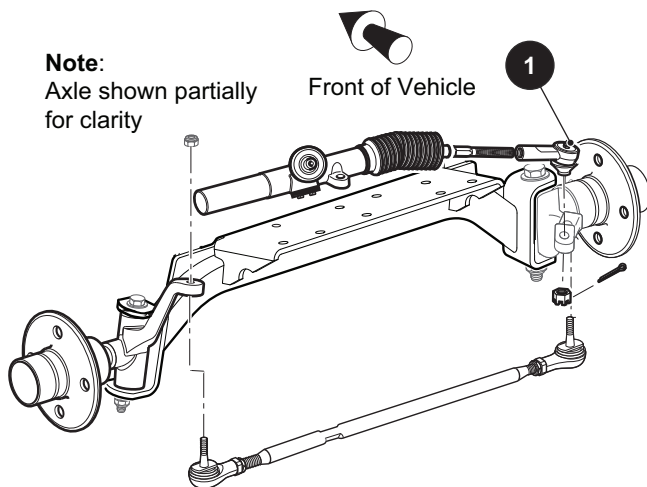

Figure 2 Lubrication Points
Grease the rack ball joint (1) (Ref. Figure 2) per the PERIODIC SERVICE SCHEDULE section. Wipe off old grease and dirt from grease fitting and do not use more than three (3) pumps of grease in any grease fitting. Wipe off any grease that is forced out of rubber boot.